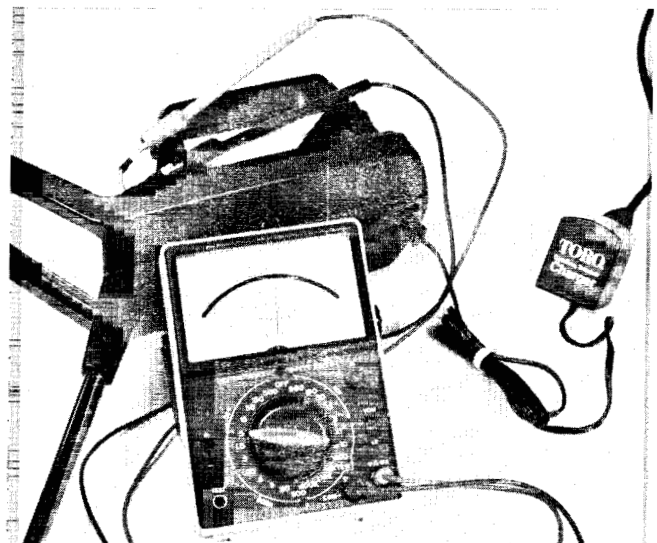

Figure 5.4
5.4 CHECK CHARGER OUTPUT AT BATTERY CONNECTIONS (fig. 5.4)